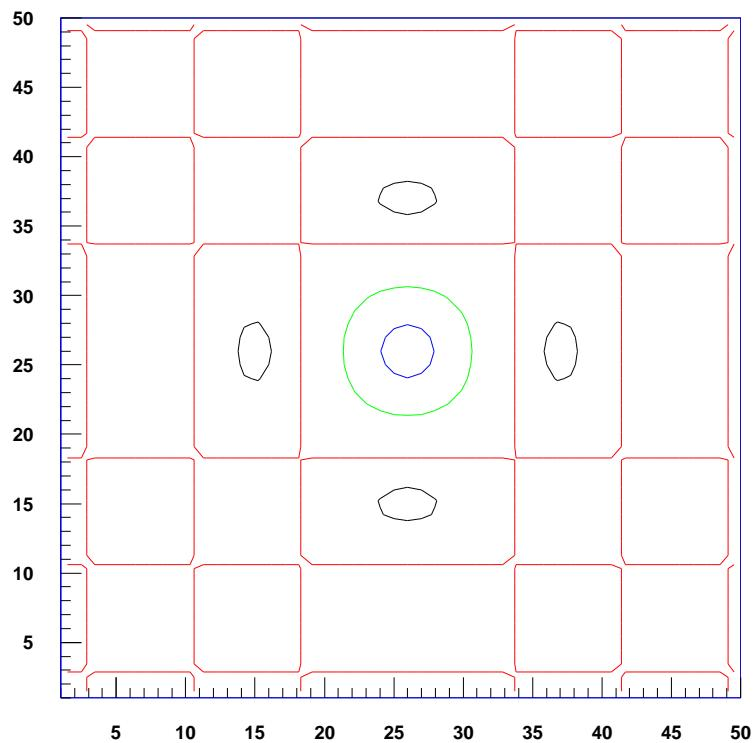

Figure 4.11: Example of the IGTABL Contour option with a define set of levels
**Example of contour option drawing with a define set of levels (see result on figure 4.11)**